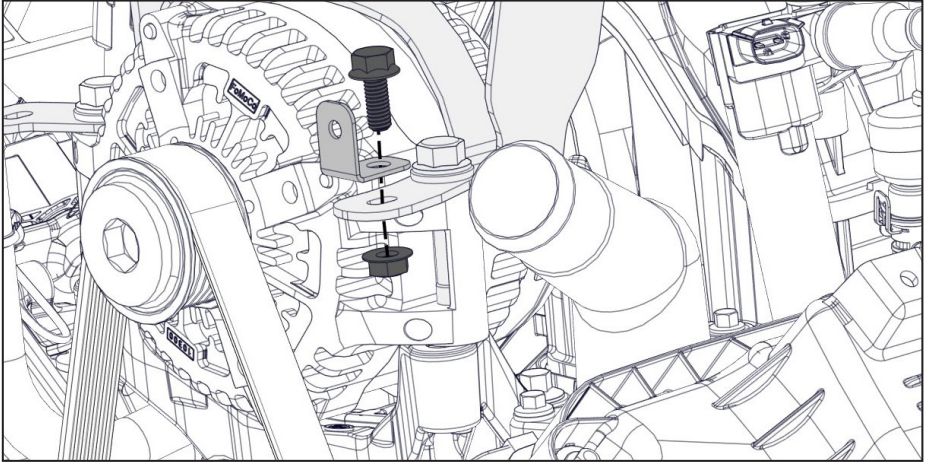

Figure 15 — Fan spacer bracket
- ☐ Using the M6 fasteners, install the fan spacer bracket onto the alternator bracket; route the fan extension harness along the front of the valve cover (Figure 15).